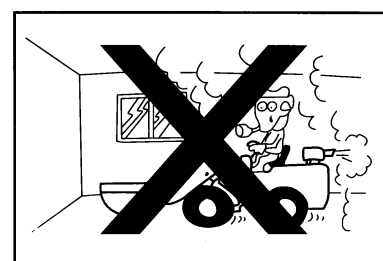

Figure1-79
- If some operation have to be done in a enclosed room or in a place which has poor ventilating, the windows must be opened for ventilation. If the opening of windows still can't provide enough ventilating, fans are necessary. (Figure 1-79)